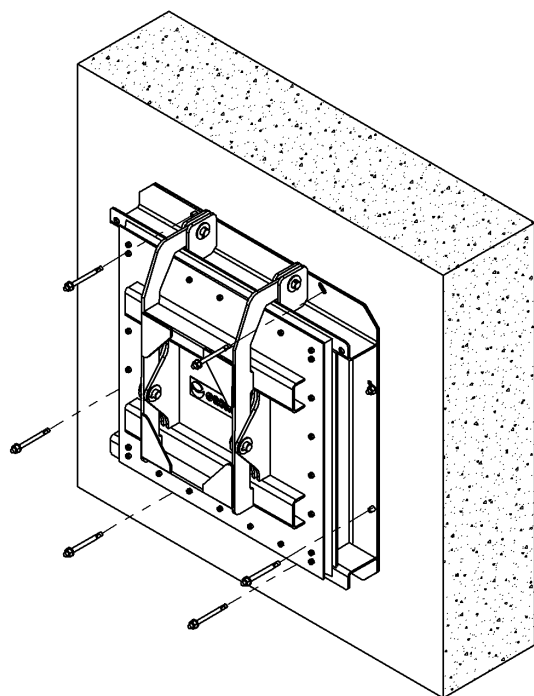

Figure 4
- Drill and install the rest of the anchor bolts (see Figure 4).